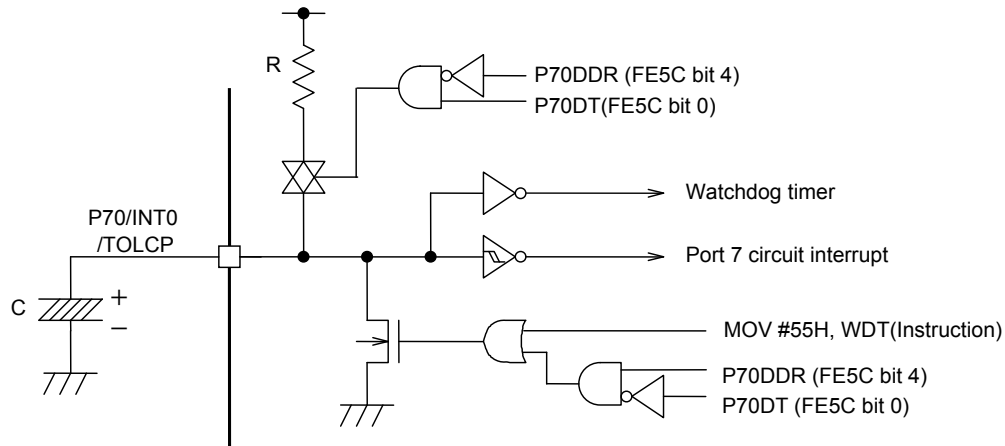

Fig. 4.5.3 Sample Application Circuit with a Pull-up Resistor
- 3) The external resistor to be connected to the watchdog timer can be omitted by setting bits 4 and 0 of the port 7 control register P7 (FE5C) to 0 and 1 and connecting a programmable pull-up resistor to the P70/INT0/T0LCP pin (see Figure 4.5.3).